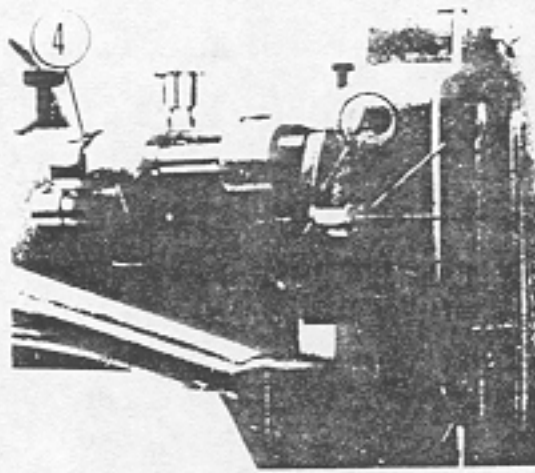

Fig. 12
The lifting amount is adjusted by changing the position of the screw hole of the main shaft feed adjusting screws (Fig. 12 ①).
For adjusting, remove the nut (Fig. 12 ②) behind the feed adjusting screw ① by turning it with a screw driver to the left. Then determine the correct position of the screw hole and set it with the vibrating presser bar connecting link (Fig. 12 ③). When all adjustments are completed, check to see that all screws and nuts are securely tightened.
screw of the vibrating presser bar rock shaft crank (Fig. 12 ④), rotate the hand wheel slowly toward the operator and when the vibrating presser foot vibrates and the lower surface of the presser foot and the vibrating presser foot comes on the same level with the upper surface of the throat plate, tighten the set screw.